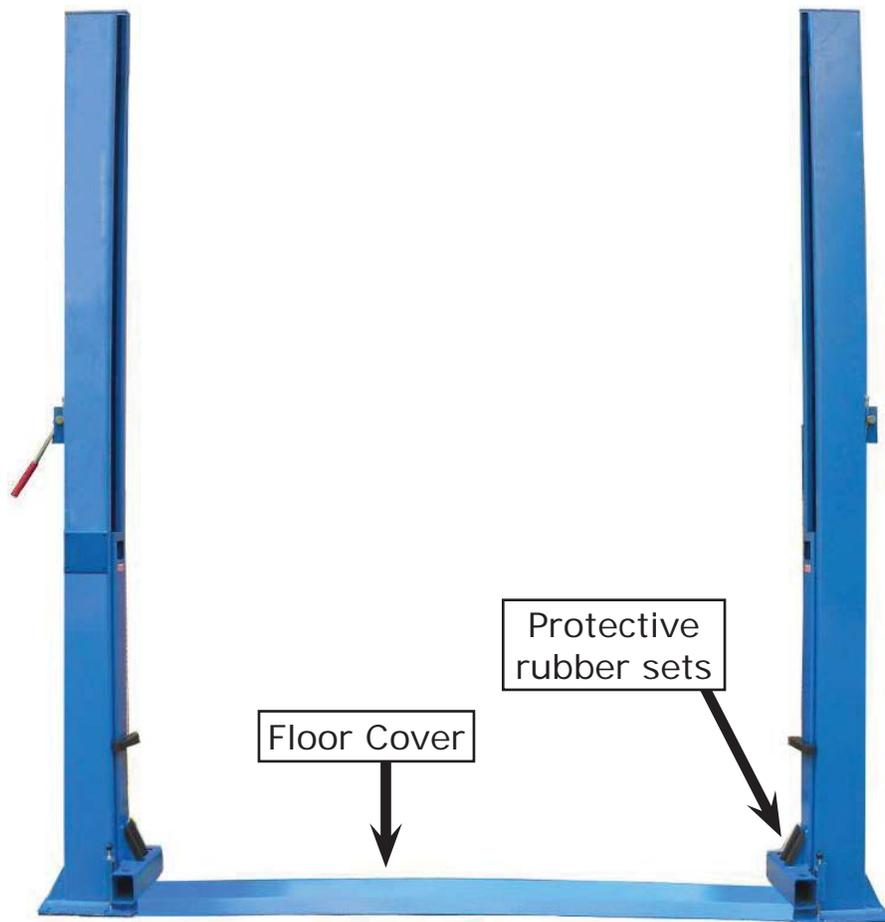

Fig. 29
M. Assemble floor cover and protective rubber sets (See Fig. 29).